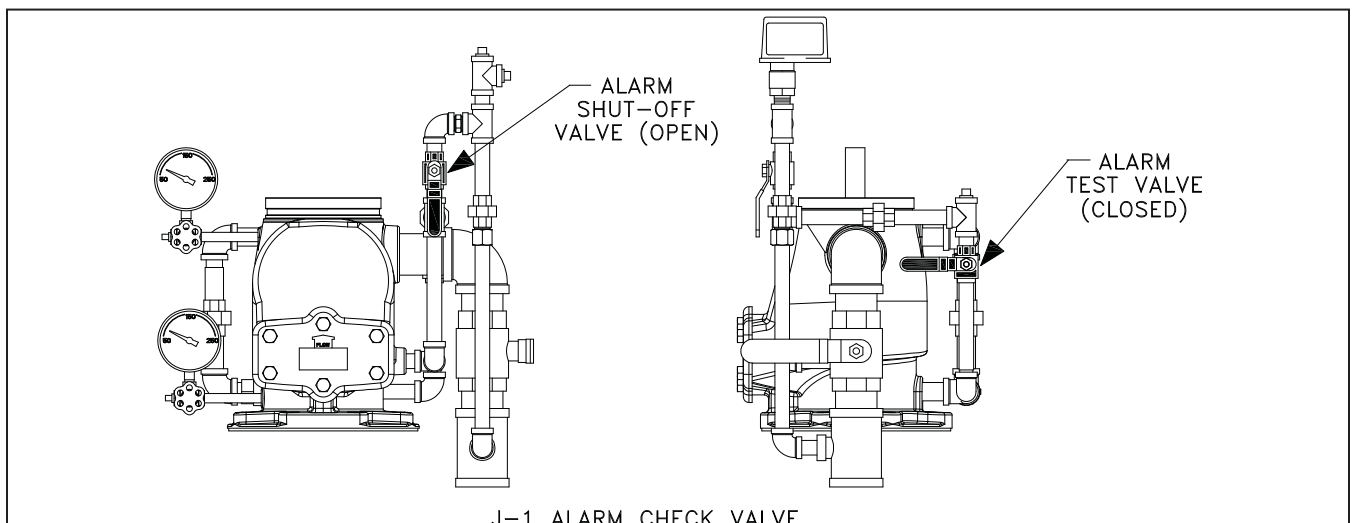

Figure 38
5. For systems using the Model J-1 Alarm Check Valve, verify that the alarm shut-off valve in the alarm check valve trim is OPEN (Figure 38), the alarm test valve is CLOSED, and all valves are in their normal operating position and appropriately secured.